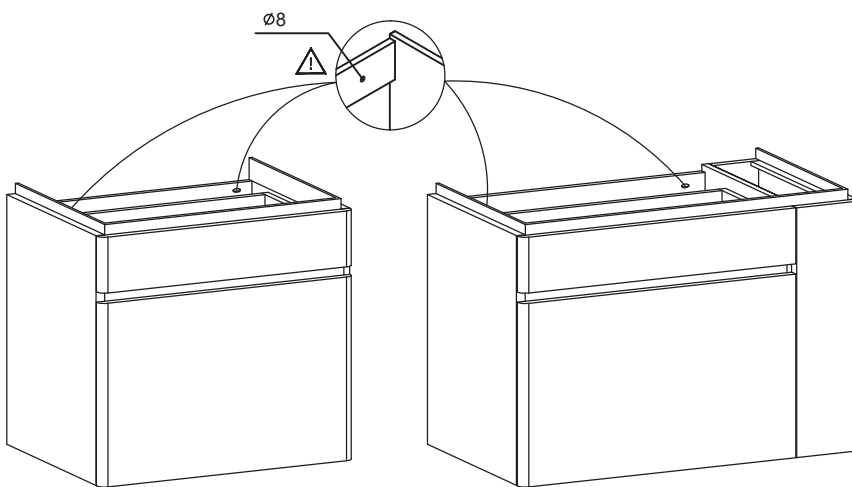

Fig.6
6. Mark the wall through two holes at the corresponding positions as illustrated in Fig. 6